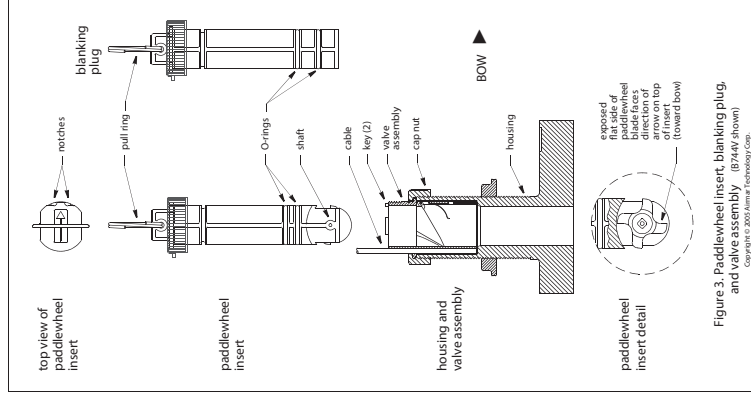

Figure 3. Paddlewheel insert, blanking plug, and valve assembly (B744V/VL shown)
1. After the sealant cures, inspect the O-rings on the paddlewheel insert (replace if necessary) and lubricate them with the silicone lubricant supplied (Figure 3). The O-rings must be intact and well lubricated to make a watertight seal.
The multisensor incorporates a self-closing valve which minimizes the flow of water into the vessel. When the paddlewheel insert is removed (Figure 3), the curved flap valve is activated by both a spring and water pressure. Water pushes the flap valve upward to block the opening, so there is no gush of water into the boat.
1. On the blanking plug, inspect the O-rings (replace if necessary) and lubricate them with silicone lubricant or petroleum jelly (Vaseline®). Figure 3. The O-rings must be intact and well seated. Do not over-tighten.
4. Slide the blanking plug into the housing. Seat it into place with a pushing twisting motion until the keys fit into the notches (Figure 3). Screw the INSERT nut in place and hand-tighten only. Do not over-tighten.
1. On the blanking plug, inspect the O-rings (replace if necessary) and lubricate them with silicone lubricant or petroleum jelly (Figure 3). The O-rings must be intact and well lubricated to make a watertight seal.
3. Separate the paddlewheel insert from the valve assembly by unscrewing the INSERT nut (Figure 3). Grasp the pull ring and pull slowly upward.
5. To reinstall the valve assembly, inspect the O-rings on the paddlewheel insert (replace if necessary) and lubricate them with silicone lubricant or petroleum jelly (Figure 3). The O-rings must be intact and well lubricated to make a watertight seal.
1. Using the new paddlewheel shaft, push out the old shaft about 6 mm (1/4"). With pliers, remove the old shaft (Figure 3).